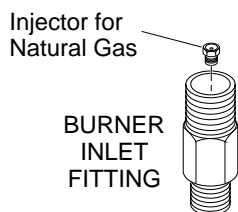

Figure 16 - Burner Inlet Fitting with Injectors
3. Replace front burner injector with the provided injector. See chart on page 7 and Figure 16, page 11. Using thread sealant (resistant to the action of propane/LP gas) on larger end of fitting, screw the burner inlet fitting through the hole and into the burner manifold. Tighten using a 7/8" wrench.